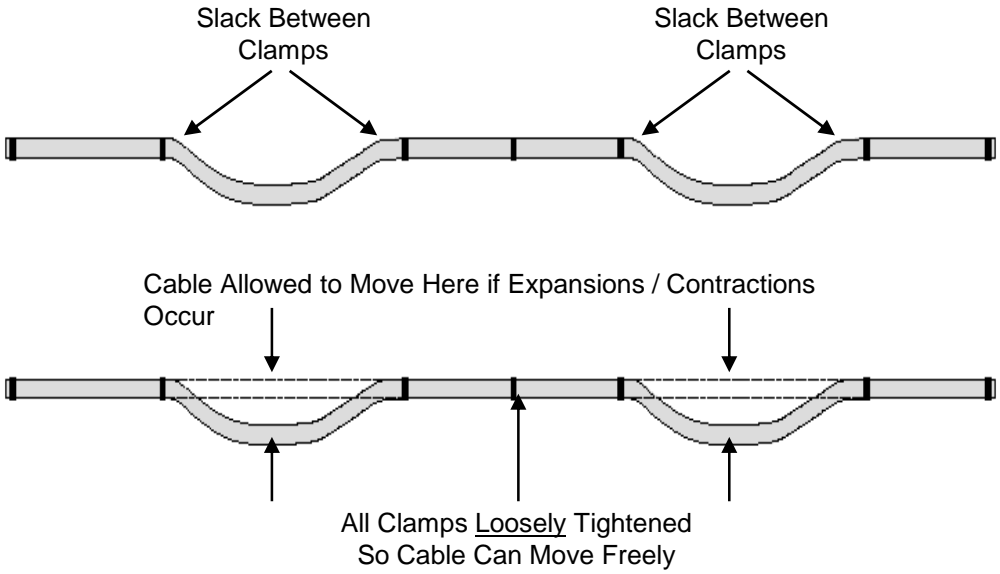

Figure 5
10.5 Support outdoor tube cables using trays, J-hooks, straps, clamps, and similar standard hardware. Support spacing requirements for outdoor tube cable is every 8' or less apart. Distribute slack footage evenly along a supported route to minimize the number of bends in the span and to maximize fiber bundle blowing performance. **See Fig. 5.**